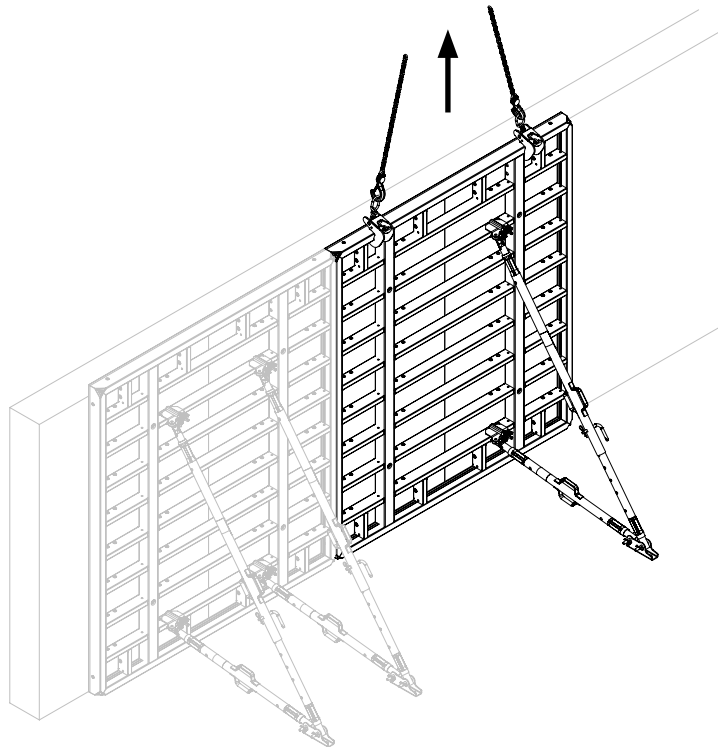

Fig. A2.07
5. Release panel from the concrete, e.g. with the stripping bar.g. (Fig. A2.07)